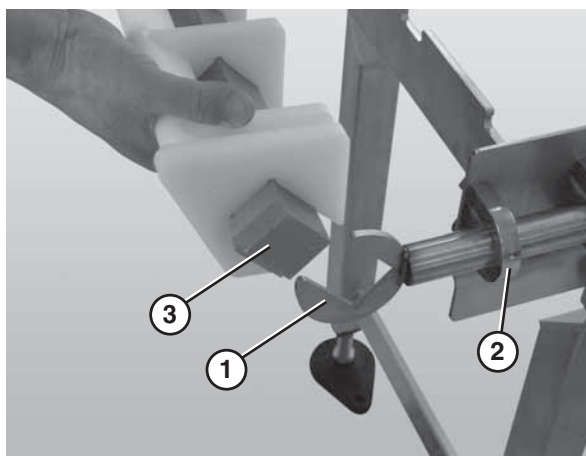

Figure 15
1. Slide the nose bar idler shaft hands (Figure 15, item 1) into the take up blocks (Figure 15, item 2).
2. Attach the nose bar transfer post (Figure 15, item 3) to the nose bar idler shaft hands.